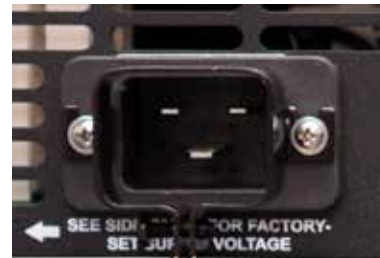

Figure 4.5 – Closeup of AC Mains Outlet
The power cord connects to a standard 20A 3-pin IEC-type male connector on the back panel (see **Figure 4.5**). Make sure the Breaker/Switch on the front panel is switched to the OFF (O) position. Make sure the power cord is inserted and seated fully into the IEC connector by moving it slightly back and forth and up and down while pushing in. The power cord is relatively stiff and should be routed so that there is no excessive force pulling to the sides or up or down that would stress the pins or internal connections.